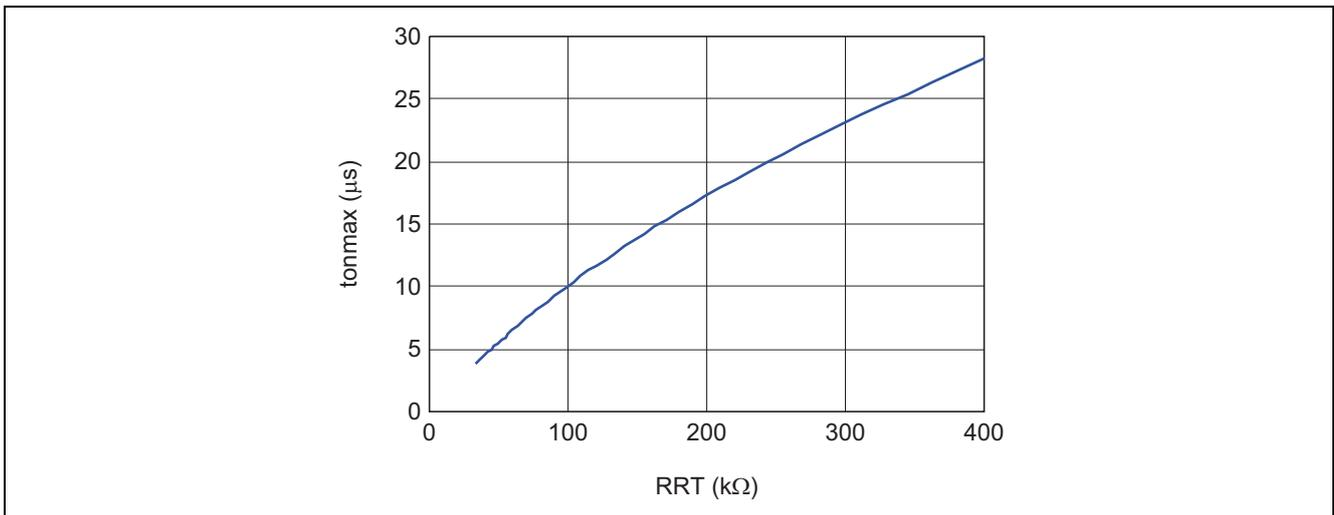

Figure 8 RRT-tonmax Characteristics
Shown as figure 8, R2A20113A controls tonmax according to the resistance connected to the RT pin (RRT). By referring to figure 8, the resistance connected to the RT pin can be decided to achieve the tonmax calculated by the formula (5).